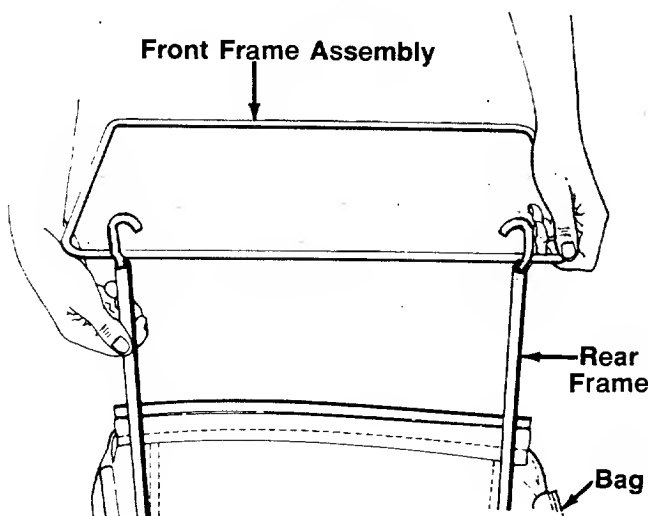

FIGURE 10.
- Join the rear frame and front frame assembly as shown in figure 10.